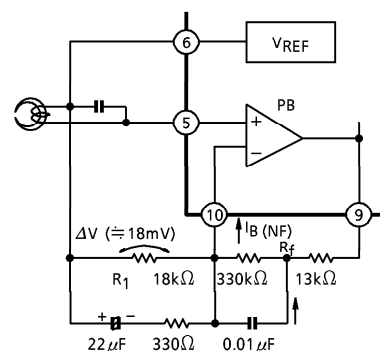

Fig.1 DC output voltage of playback amplifier.
In case that β of transistor is assumed 100, $I_B(\text{NF})$ is flowed $0.2\mu\text{A}$ in Fig.1. And output voltage of playback amplifier (pin^⑧, ^⑨) in Fig.1 is